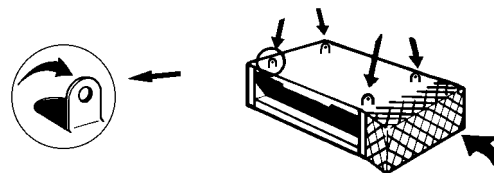

Fig. 15 Lifting of section in lifting hooks.
- The sections can also be lifted in their lifting hooks, which are partially concealed under the insulation. The hooks at the front of the oven roof are to be turned up 90° before use (fig. 15).